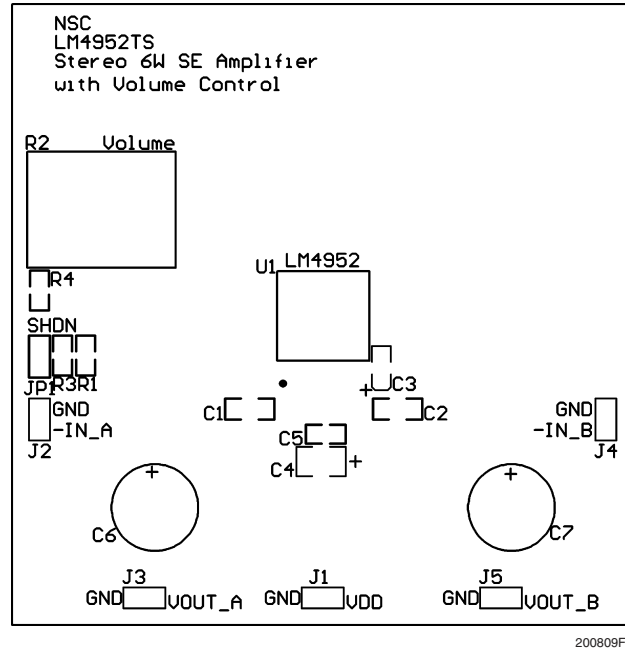

FIGURE 11. Recommended TS SE PCB Layout:
Figure 9 through Figure 11 show the recommended two-layer PC board layout that is optimized for the TO263-packaged, SE-configured LM4952 and associated external components. These circuits are designed for use with an external 12V supply and 4Ω(min)(SE) speakers.